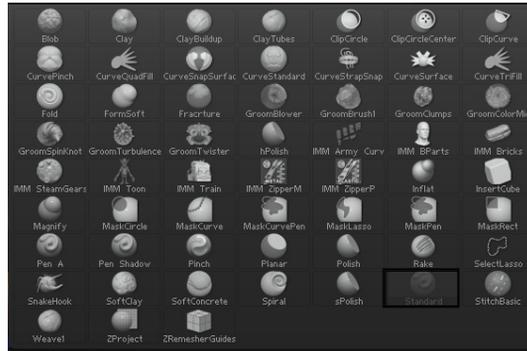
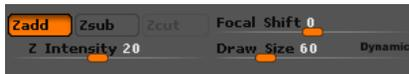

Figure 3-55 The **Standard** brush chosen from the flyout
Figure 3-56 Settings for the **Standard** brush for adding depth
- Rotate the view of the canvas such that you can view the side view of *turtle shell*. Choose the Current Brush button from the left shelf; a flyout containing different sculpting brushes is displayed. Choose the **Standard** brush from this flyout if not already chosen, as shown in Figure 3-55. Make sure that the **Zadd** button is chosen in the top shelf. Set the value of the **Z Intensity** slider to **20** and of the **Draw Size** slider to **60**, as shown in Figure 3-56.